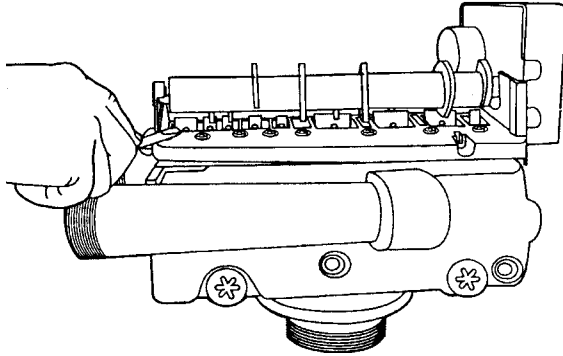

Figure 10
3. Remove cover and with screwdriver, relieve tank pressure by pushing open valve No. 7 (rear flapper) on control as shown (Figure 10).